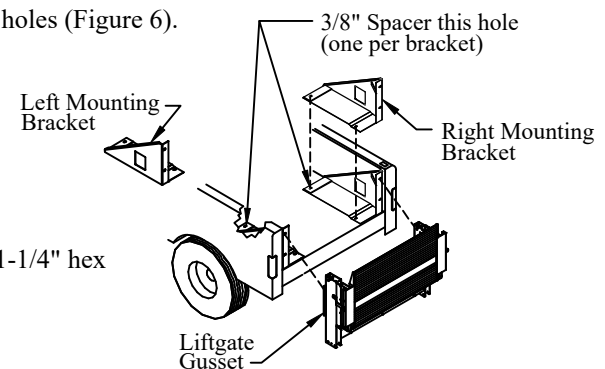

Figure 6: Mounting bracket and liftgate.
1. **Remove** the truck bed bolts at the rear of the truck bed, two per side (Figure 6).
2. **Position** the supplied 3/8" spacers over the mounting holes near the wheel wells, one per side (Figure 6).
3. **Position** the mounting brackets in the truck bed over the truck bed mounting holes (Figure 6).
6. **Attach** liftgate gussets to the mounting brackets using the supplied (4) 1/2"x1-1/4" hex head bolts, lock washers, and flat washers on the bracket-side (Figure 6).